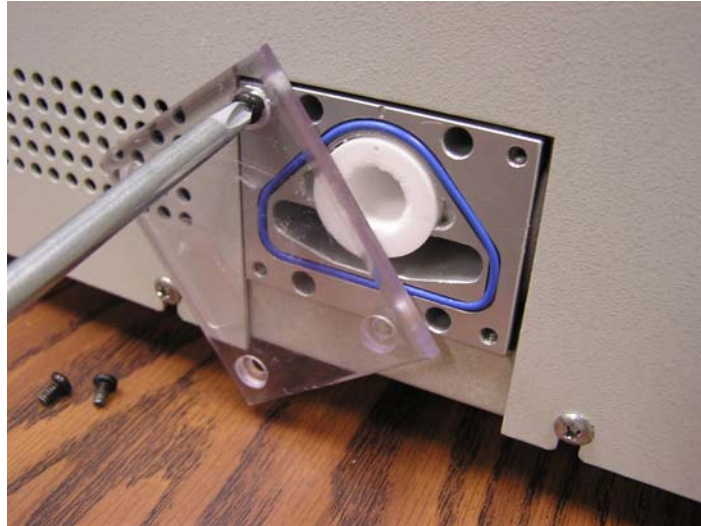

Figure 8-8
5. Once drained, remove the clear plastic reservoir cover plate by removing the four retaining screws as shown in Figure 8-8. Make sure the blue O-ring gasket seal is retained if it becomes unseated. Put paper towels on the table under the reservoir to absorb any butanol that spills out.